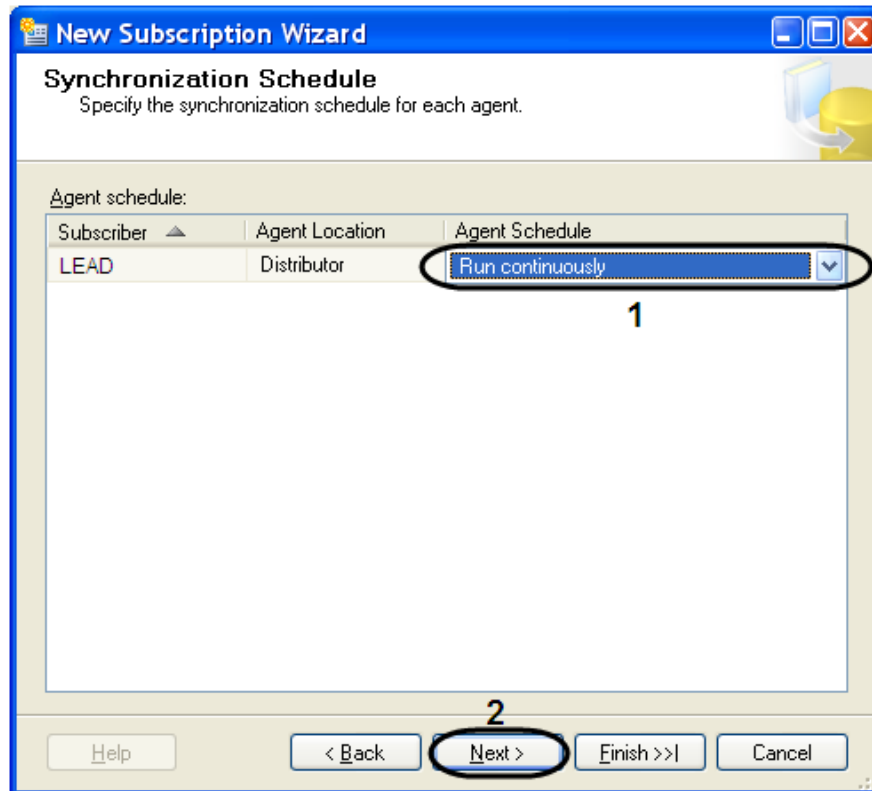

Fig. 9.3-18 Setting up the schedule of distributor agent
16. For distributor agent constant operation select the value «Run continuously» from the dropdown list «Agent Schedule» in the «Synchronization Schedule» window (Fig. 9.3-18, 1).
17. Click Next to continue (Fig. 9.3-18, 2).